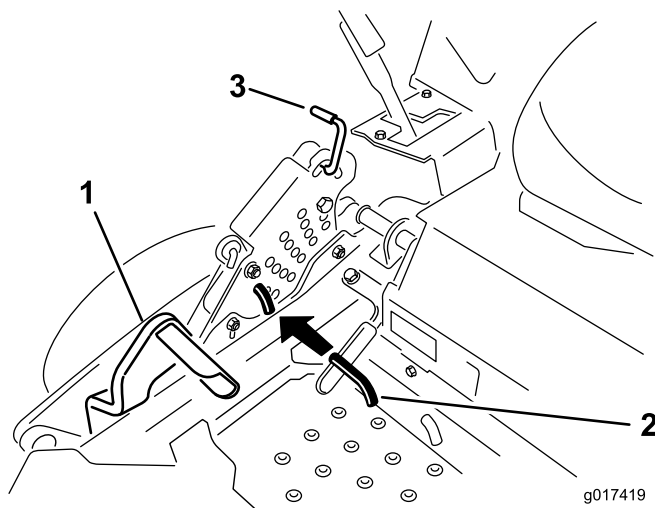

Figure 71
5. Push the deck-lift pedal all the way forward and the deck will latch at the 14 cm (5-1/2 inches) transport position (Figure 71).